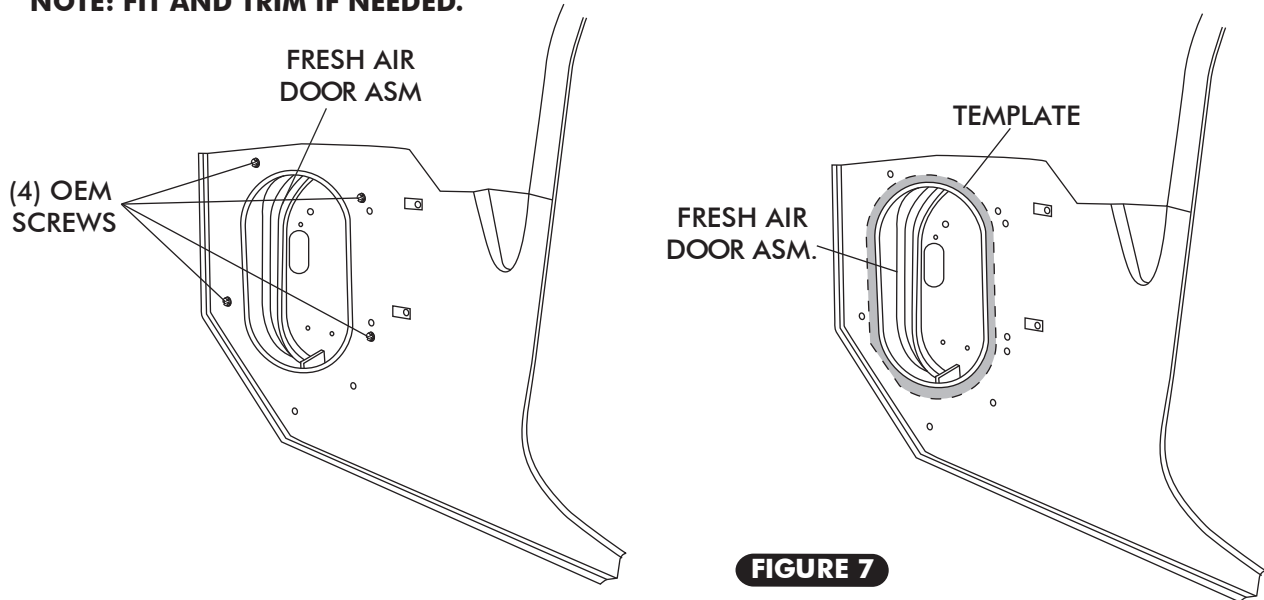

FIGURE 7
- ☐ REMOVE KICK PANEL BY REMOVING THE (4) OEM SCREWS (SEE FIGURE 7, BELOW).
- ☐ PLACE TEMPLATE ON KICK PANEL AS SHOWN IN FIGURE 7, BELOW.